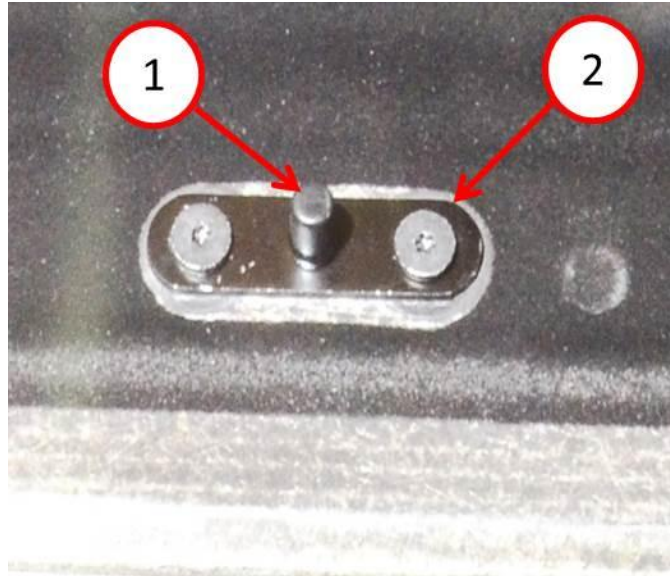

Fig. 14 Centering Pin And Spacer
59. Using pliers or suitable tool, remove and discard the plastic spacer from the centering pin opposite side with latch (Fig. 14).
60. Install the new spacer (P/N 68324502AA) on the centering pin (Fig. 14).